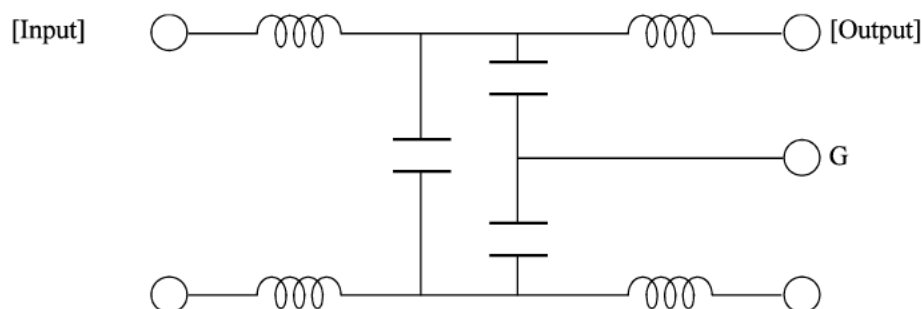

Figure 4.8 AC noise filter (recommended)
- Circuit construction: T-configuration as shown in Figure 4.8 is recommended.